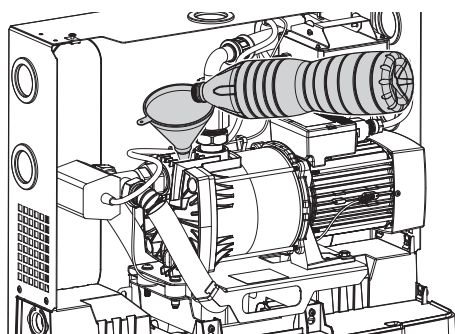

Fig. 21: Pump filling
2. Fill the pump with clear water via a funnel (Fig. 21).